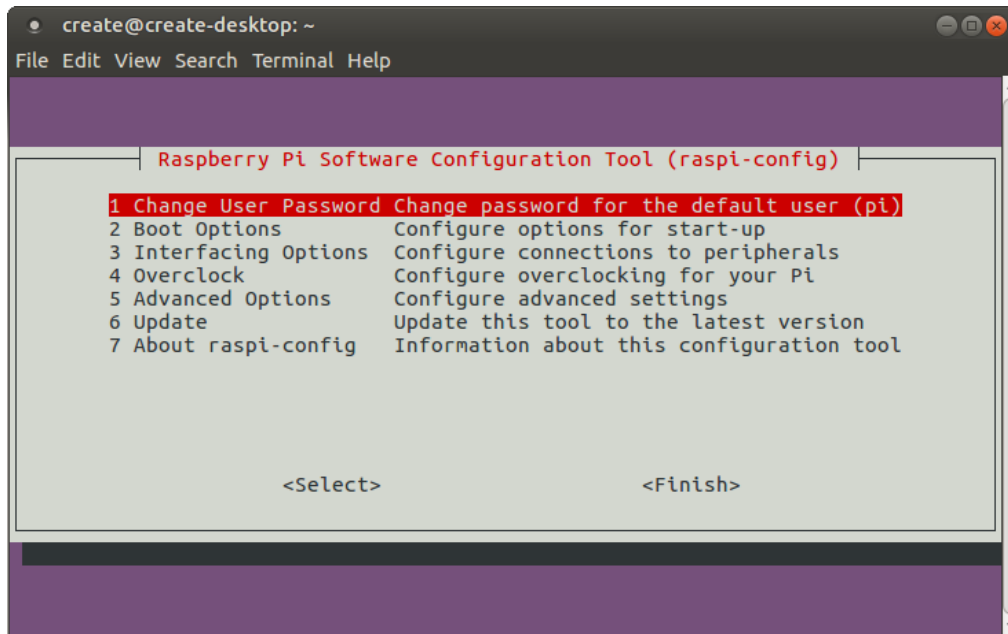

Figure 3: Raspberry Pi Configuration
- d. You should see the window shown in Figure 3. Use the arrow keys to navigate to Interfacing Options and press Enter